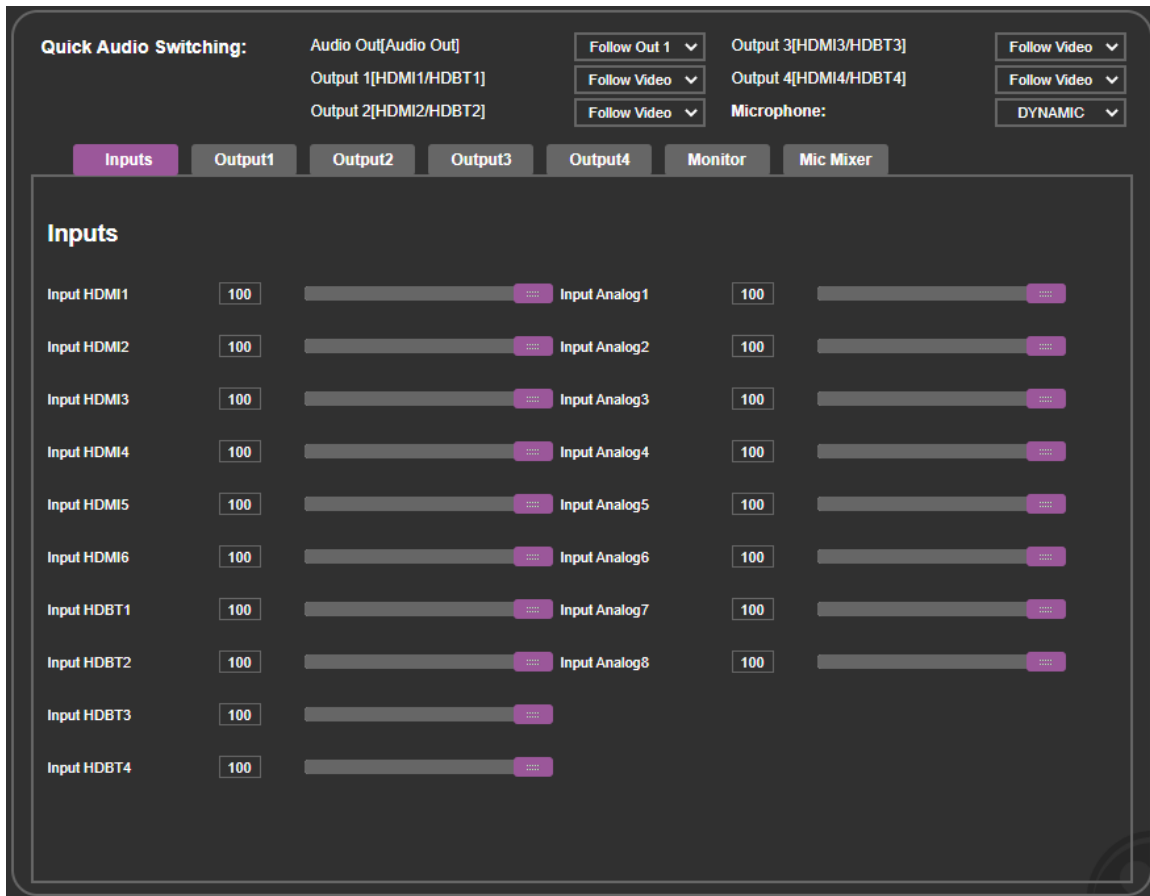

Figure 28: Audio Settings page
1. In the Navigation pane, click **Audio Settings**. The Audio Settings page appears (Figure 28).
1. In the Navigation pane, click **Audio Settings**. The Inputs tab in the Audio Settings page appears (Figure 28).